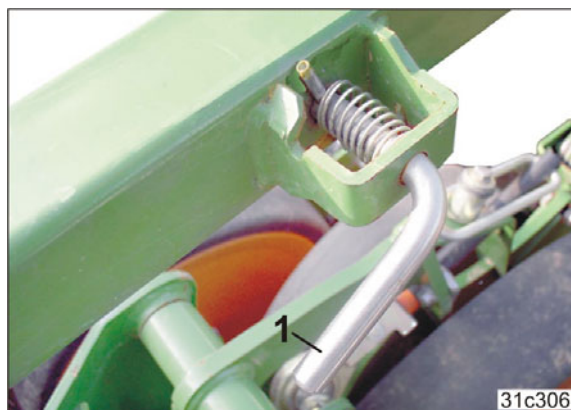

Fig. 215
- 9.1 Actuate the lever (Fig. 215/1) and withdraw the track marker. Ensure that the lever engages after each adjustment as shown.